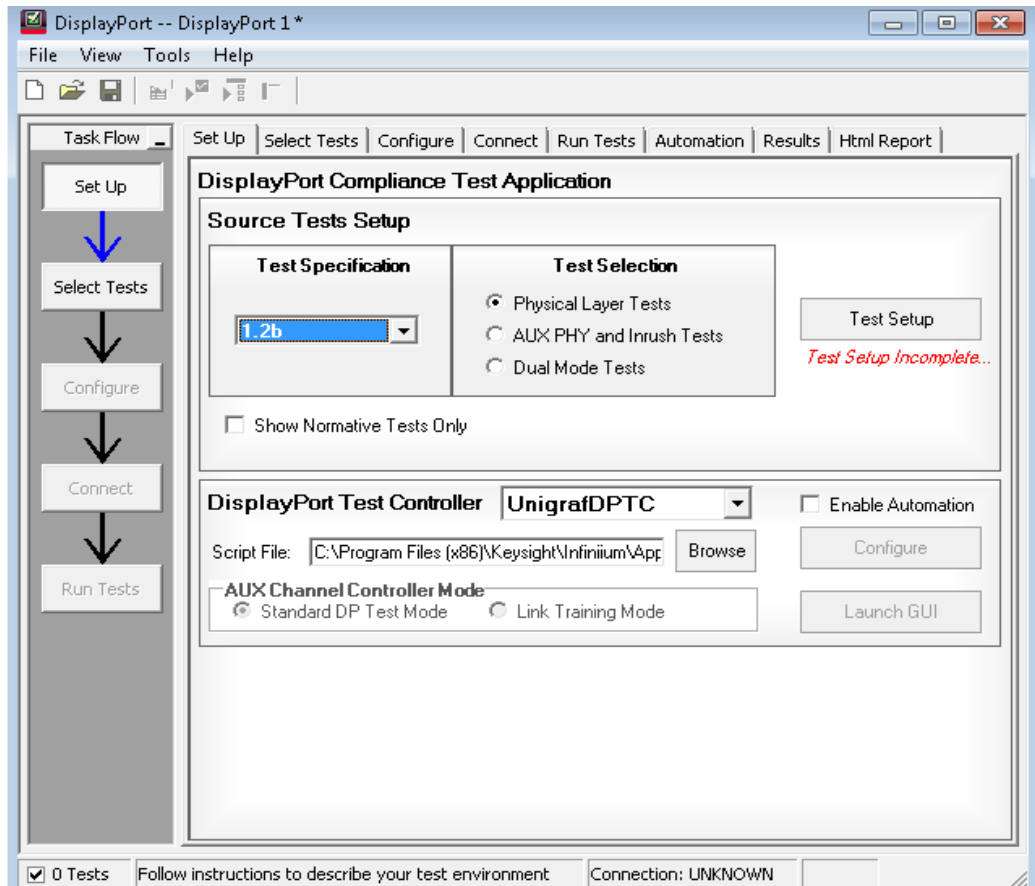

Figure 45 Set Up tab on the DisplayPort Compliance Test App
- 3 On the DisplayPort Compliance Test Application, click the **Set Up** tab (see Figure 45).